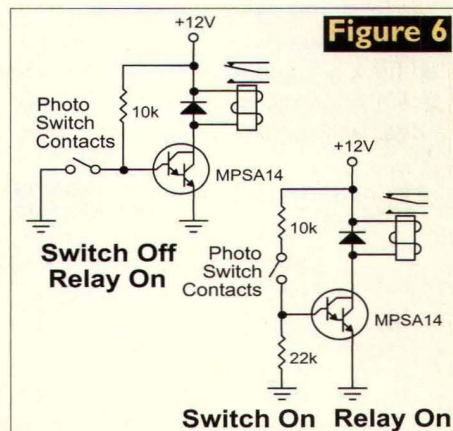

Figure 6
A. I'm assuming the contacts are SPST (single-pole, single-throw) NO (normally-open). To detect if the beam is broken or not, use one of the circuits in Figure 6. In the Switch-Off/Relay-On circuit, the switch shorts the base of the relay driver transistor to ground when the LED is lit — unlit, the short is removed and the relay pulls in. In the Switch-On circuit, when the switch is closed, it supplies base current to the transistor when the LED is lit, causing the relay to pull in.